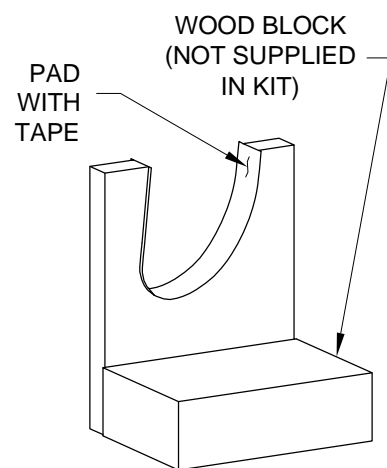

FIGURE 2: BUILD CRADLES
Step 3: Attach the cradle to a block of wood so that it may be clamped to a table. See Figure 2.